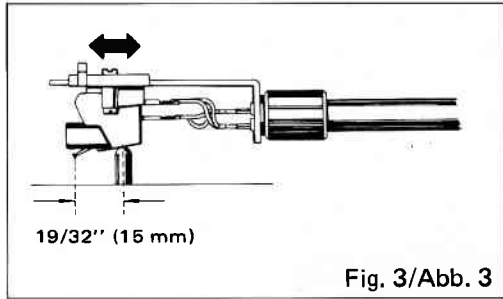

Fig. 3/Abb. 3
3. Move the tone arm over the turntable shaft and move the cartridge back or forth to obtain a space of 19/32" (15 mm) between turntable shaft and stylus tip (Fig. 3). Fix the cartridge in this location by tightening mounting screws.